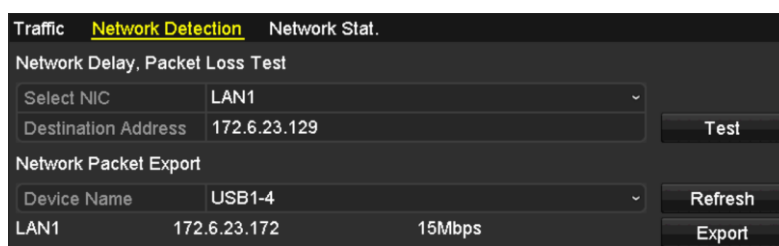

Figure 9-21 Network Detection Interface
Step 2 Click the **Network Detection** tab to enter the Network Detection menu, as shown in Figure 9-21.